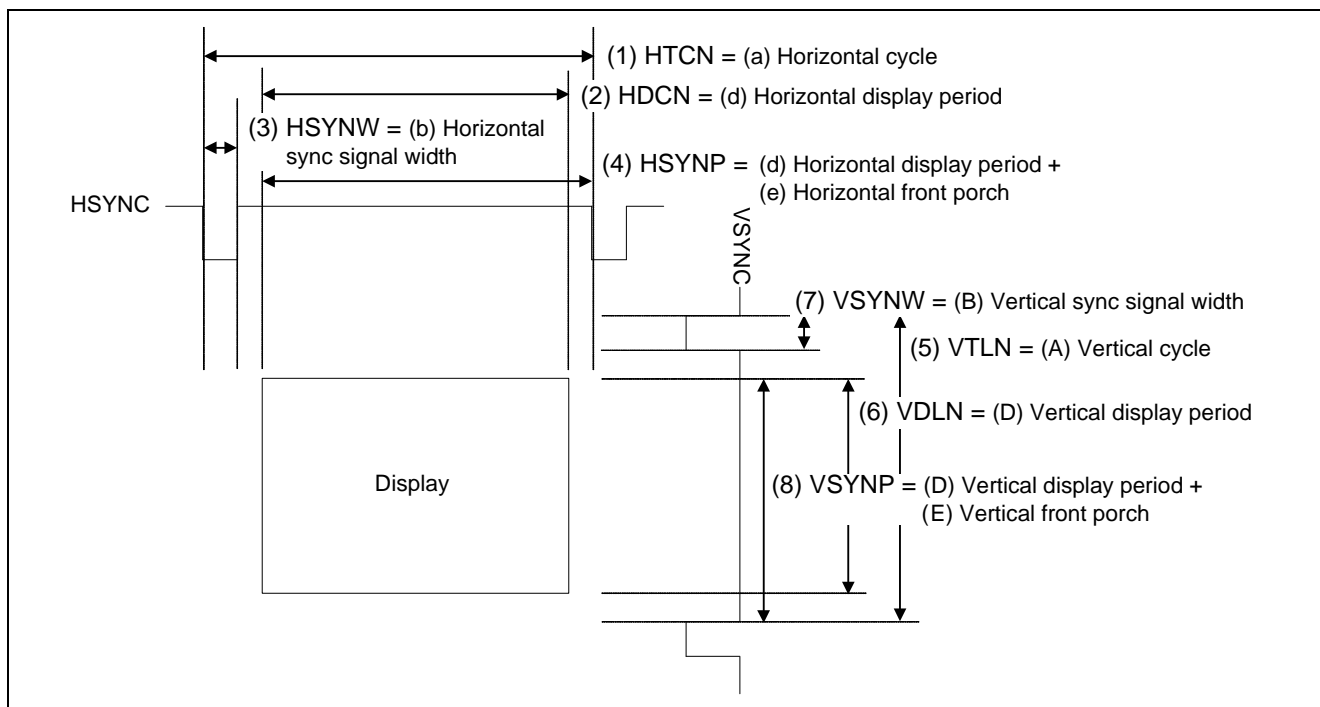

Figure 9 Sync Signal Configuration
The sync signal parameters in figure 9 should be set according to the characteristics (A) to (E) and (a) to (e) in figure 3 of the LCD module used.